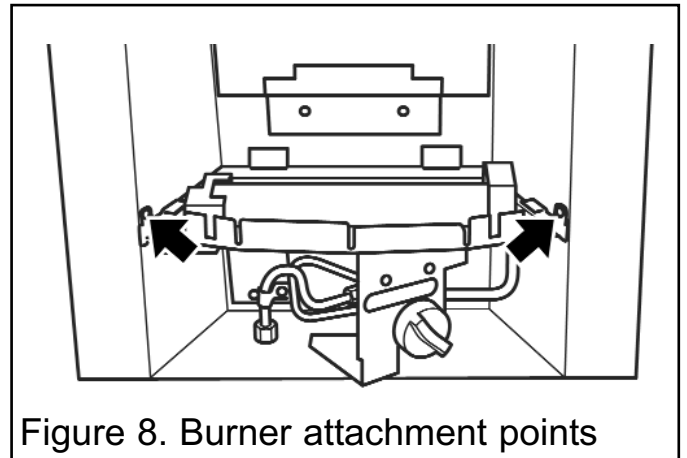

Figure 8. Burner attachment points
2. Detach the burner unit from the convection box by removing two screws (See figure 8). Lift the burner unit clear.